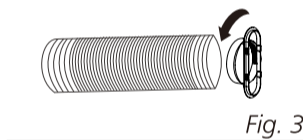

Fig. 3
- 2 Extend the other side of the hose and screw it to the hose outlet (Fig.3).